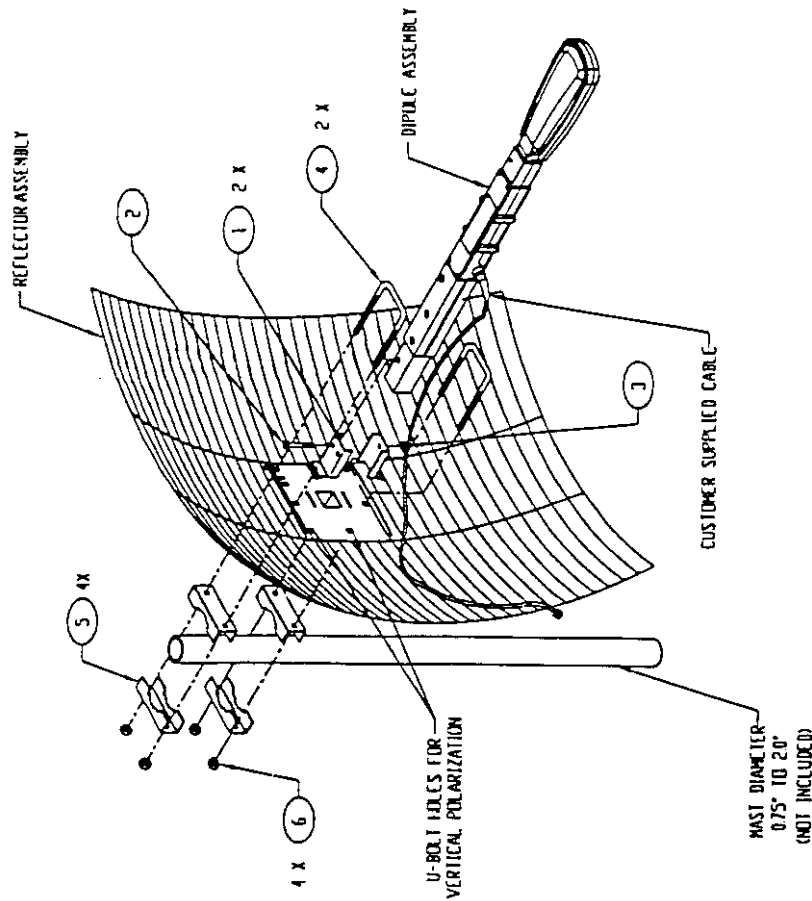
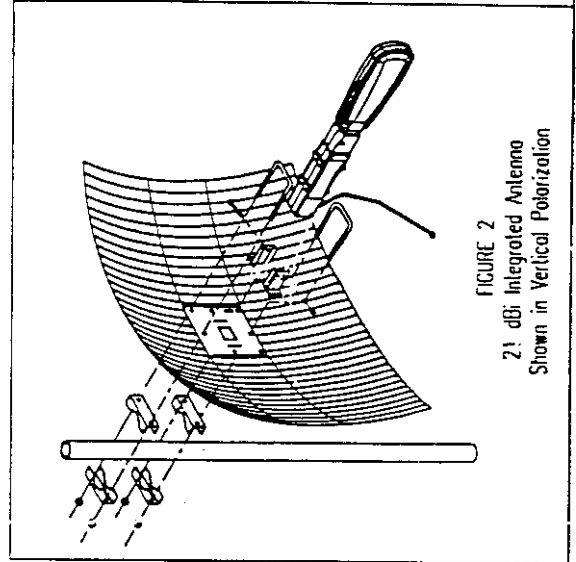
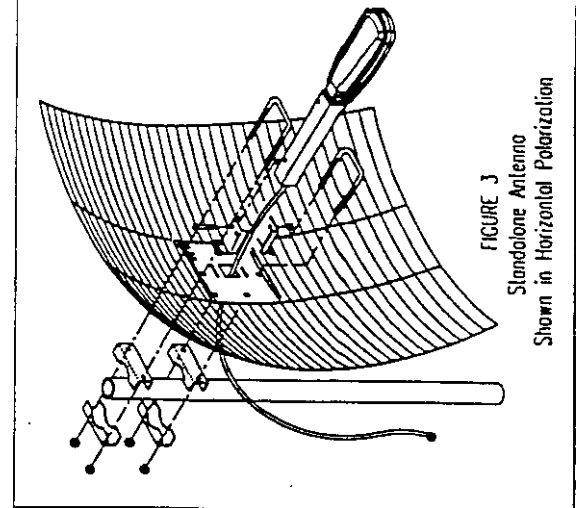

FIGURE 1
FIGURE 2
FIGURE 3
Refer to Figure 1 for the following instructions.
1. Insert feed tube clamps (item 1) in slots on reflector plate.
2. Insert dipole assembly into feed tube clamps and align holes. Standalone dipole assemblies with attached cable should have the cable fed through the hole in the reflector plate as shown in Figure 3.
3. Secure dipole assembly to feed tube clamps using bolt (item 2) and lock nut (item 3).
4. Insert U-bolts (item 4) from the side shown into the reflector assembly. For horizontal polarization, the U-bolts should be placed in the holes which align with the long side of the reflector, see Figure 1. For vertical polarization, the U-bolts should be placed in the holes which align the short side of the reflector, see Figure 2.
5. Place mounting brackets (item 5) on U-bolts and install lock nuts (item 4).